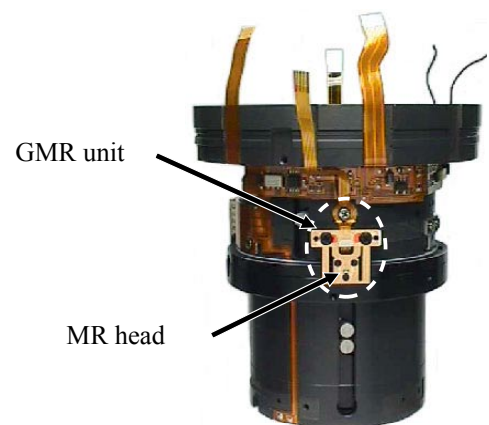

Fig.2
④ In case the amplitude is small, disassemble up to the stage of the GMR sensor FPC unit. Then if the deformation is detected in the MR head, correct the deform of the MR head. On the other hand, if such correction is impossible or no deformation is detected, replace the GMR sensor FPC unit. (Fig.2)